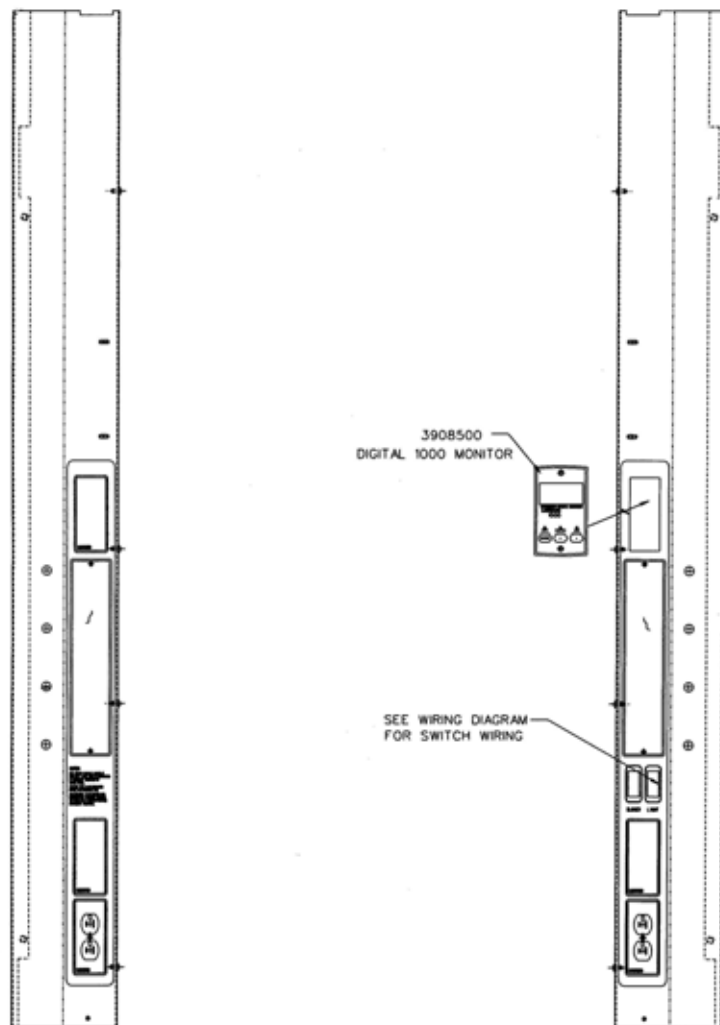

Figure 1
4. Install the monitor to the upper right corner post using the two screws that came with your kit. See Figure 1.